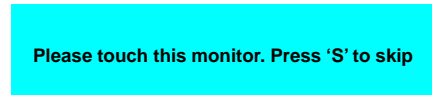

Fig.40
- Touch each screen as it displays “Please touch this monitor. Press ‘S’ to skip”. Follow this sequence and touch each screen to map the touchscreens. (Fig.40)